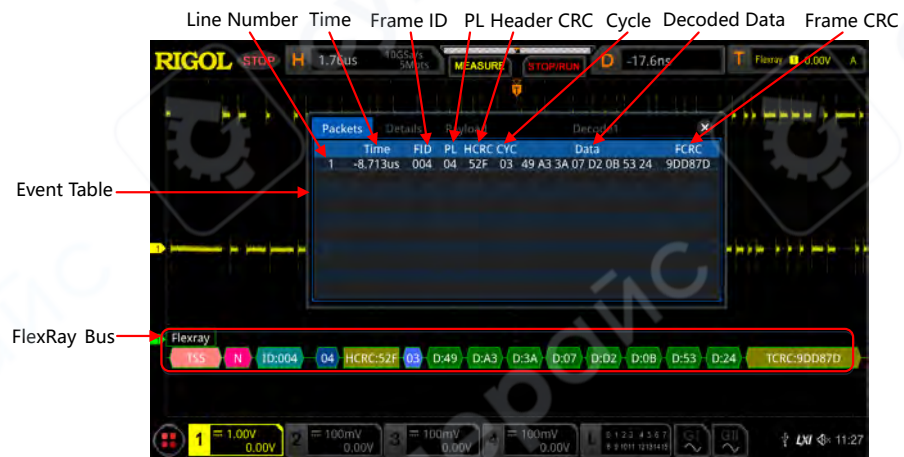

Figure 15.13 FlexRay Decoding Event Table
- Open or close the event table: Press **Event Table** continuously to enable or disable the display of the event table. When enabled, the following event table as shown in *Figure 15.13* is displayed. You can also enable the touch screen to tap the icon  at the right-upper corner of the event table to close it.